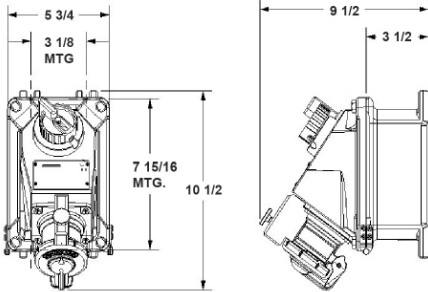

Fig. 1
- **Mounting Arrangement:** Receptacle assembly must be mounted securely onto a column, wall, or other structure that is able to support the device and the associated conduit system. The structure is to be prepared for use of four (4) 3/8" steel bolts (furnished by others) using the lugs on the housing. The spacings are as shown in Fig.1. The device is equipped with factory installed hinges. It must be mounted with the hinges on the bottom and the receptacle in the downward direction.